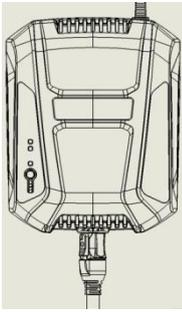

Fig.4
2. Insert the backpack battery plug into the plug-in socket in the Charger (Fig. 4). The charger will communicate with the battery to evaluate the condition of the battery.